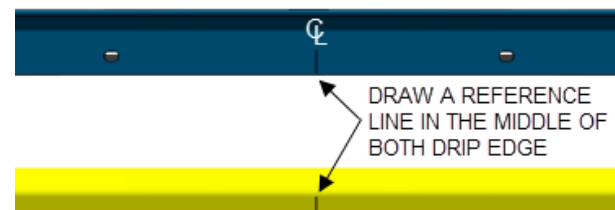

FIGURE 25
6. Draw a line to mark the center of both drip edge (**FIGURE 25**).